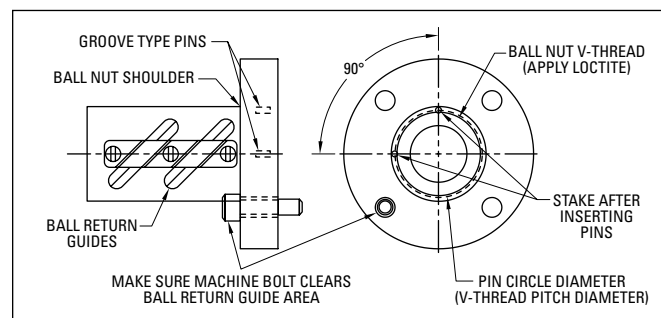

Figure 1
4. Loosen the flange until the required machine bolts can be inserted into the flange mounting holes without interfering with the ball return guides (see Figure 1).
5. Drill two holes approximately 90° apart, as shown in Figure 1. Note: the pin circle diameter is also the V-thread pitch diameter.